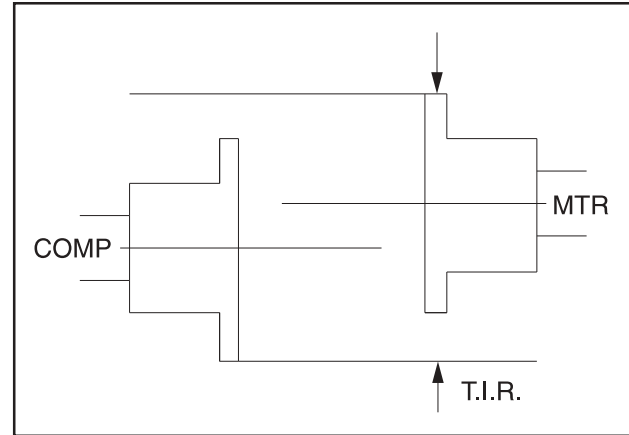
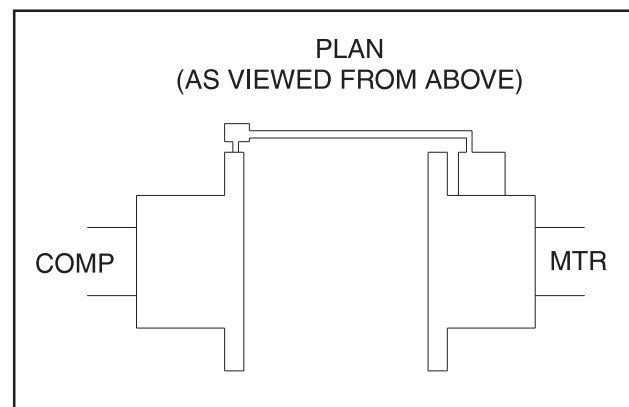

FIG. 4 - PARALLEL MISALIGNMENT
FIG. 5 - DIAL INDICATOR ATTACHED (AT 9 O'CLOCK)
6. To check parallel alignment, as shown in Fig. 4, reposition dial indicator so the stem is in contact with the rim of the compressor hub, as shown in Fig. 5.
Set indicator at zero and rotate both coupling hubs together  $180^\circ$  (9 o'clock position), as shown in Fig. 5.